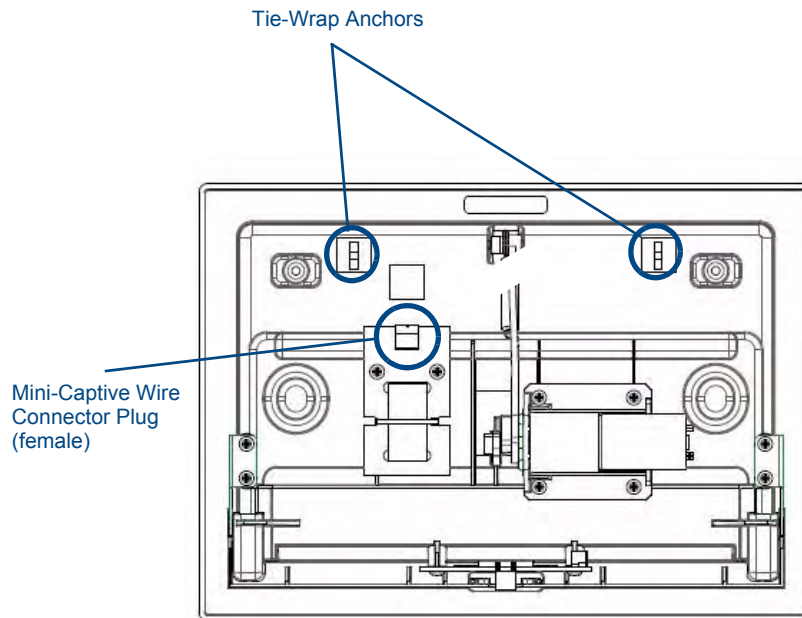

FIG. 9 MVP- WCS-52 - Rear
7. Secure the power cable to the device, using either of the two tie-wrap anchors included in the Installation Kit at the top rear of the device (FIG. 9). Point the head of each tie wrap toward the center of the device.